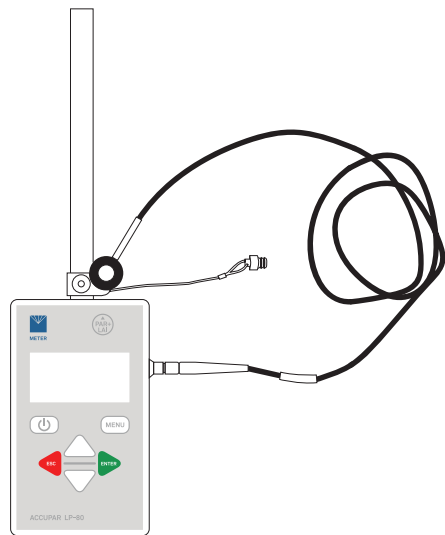

Figure 30 Level the LP-80 probe and external sensor
4. Level the probe and sensor in an unshaded area (Figure 30).